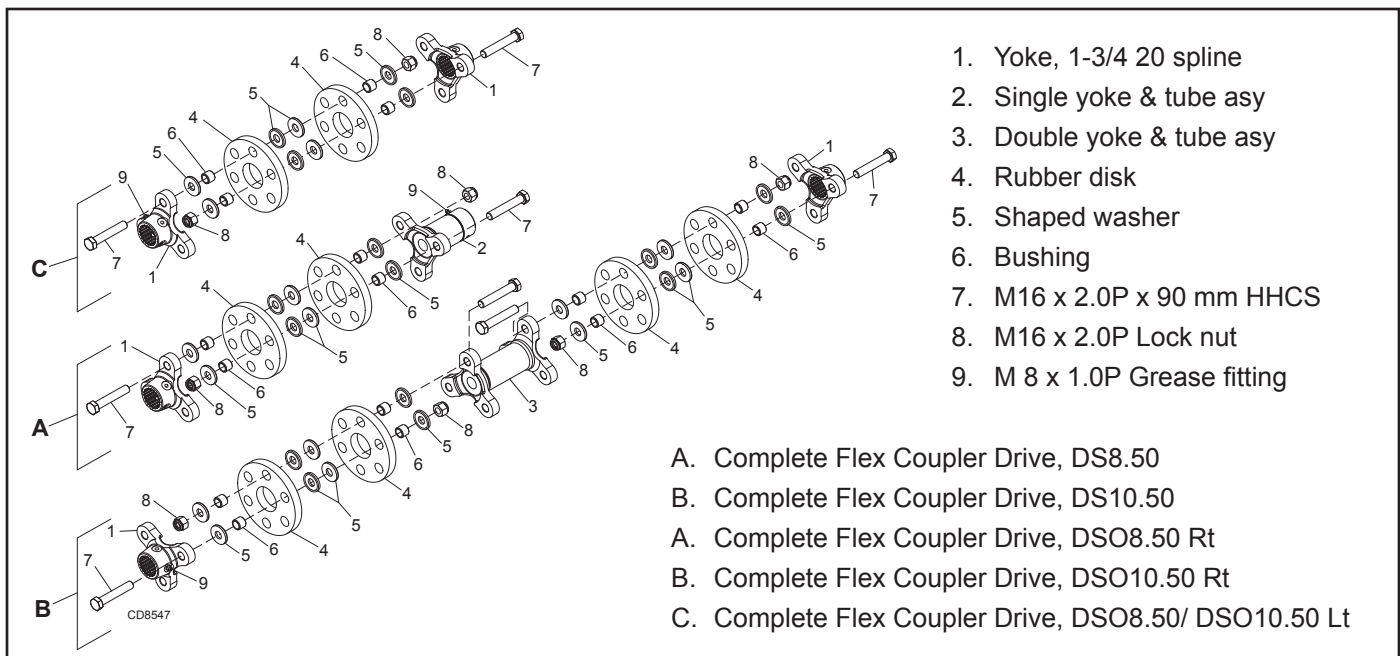

Figure 14. Flexible Couplers
To replace the disks, remove hardware items 5, 6, 7, and 8. Remove sleeves (6) from old disk and install in new disk. Reassemble and torque bolts to 85 lbs-ft. See Figure 14. Take special care not to rotate gearbox shaft and throw blades out of time. If rubber disks have failed and blades are hitting, you will need to re-time the blades per instructions on page 34.